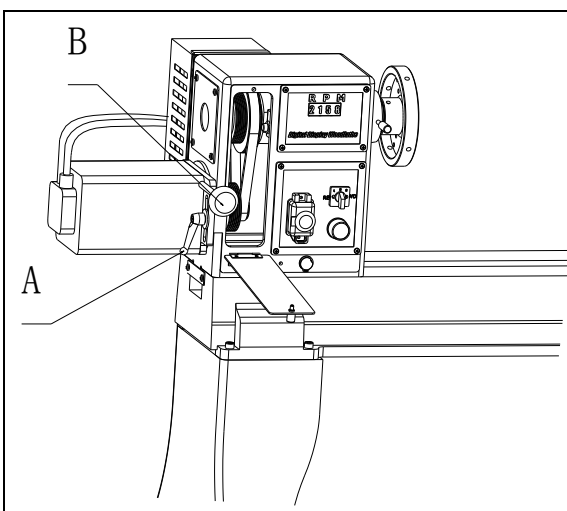

Fig.9
2. Loosen the locking handle (A, Fig. 9).
3. Lift up on the tensioning handle (B, Fig. 9) to remove tension from the poly v-belt. You can now position the belt in the desired speed range. It is pictured in the low speed pulley range. Note: The "High" speed range (330-3200) provides maximum speed, where as the "Low" speed range (100-1200) will provide maximum torque.